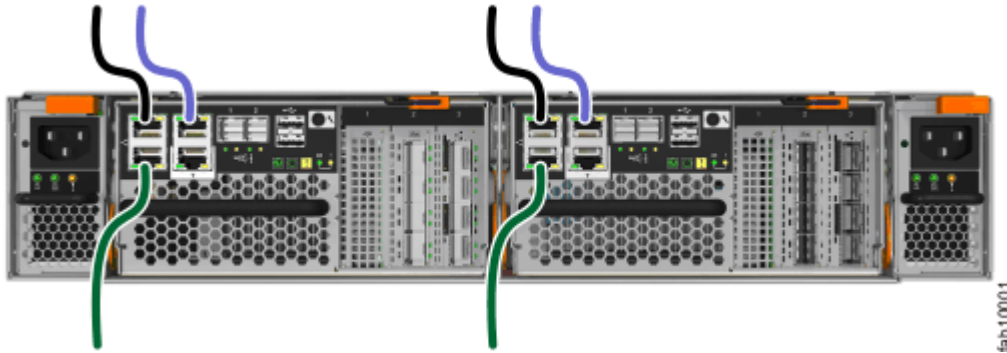

Figure 6. Connecting the Ethernet cables
1. Connect Ethernet port 1 of each node canister in the system to the IP network that will provide connection to the system management interfaces, as shown in Figure 6 on page 16.
2. Optionally, connect Ethernet port 2 of each node canister in the system to a second IP network that will provide redundant connection to the system management interfaces, as shown by the lighter cable connection in Figure 6 on page 16.